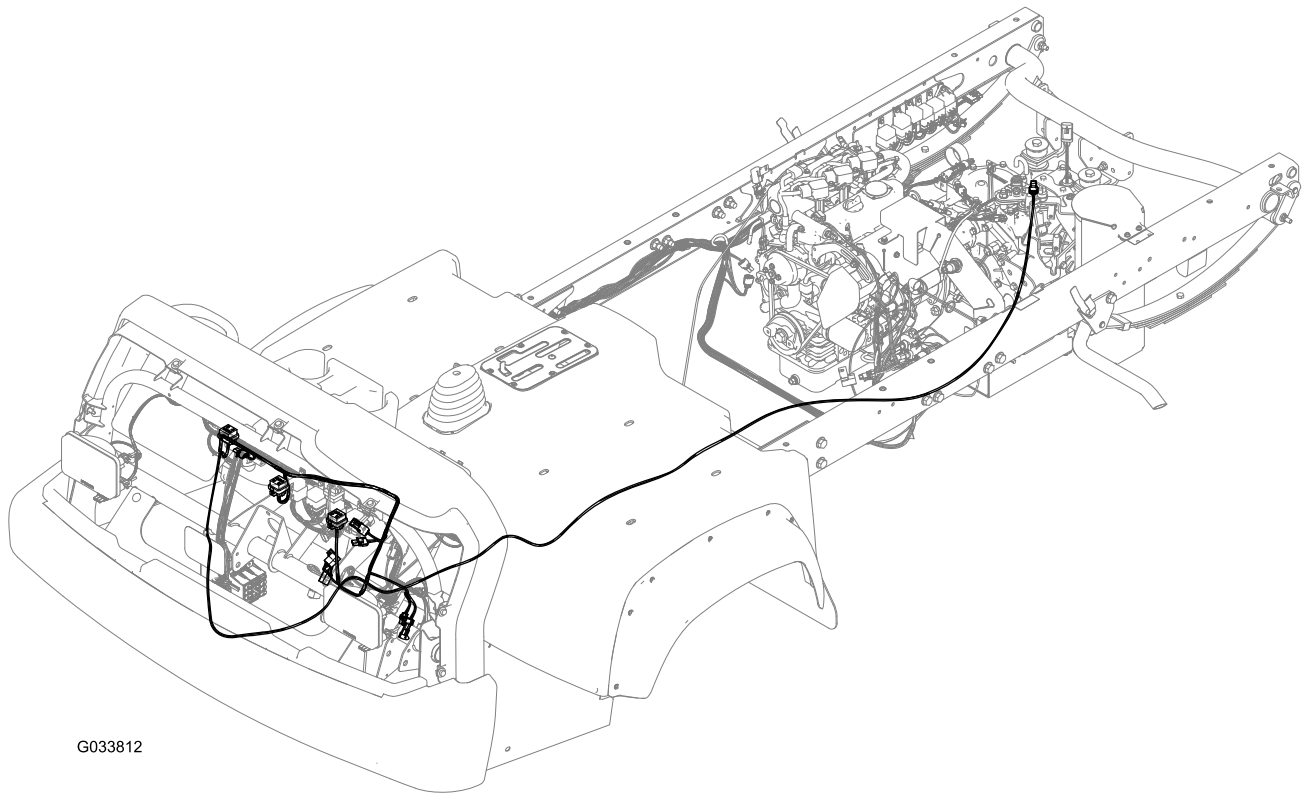

Figure 6
1. Route the end of the wire harness labeled “reverse switch” between the front of the vehicle through the wire-bulkhead opening under the operator platform, and back to driver’s side frame rail to the top of the transmission assembly (Figure 6).
3. Plug in the brake connector, 4WD-bypass connector, and the clutch connector into the new wire harness (Figure 6).